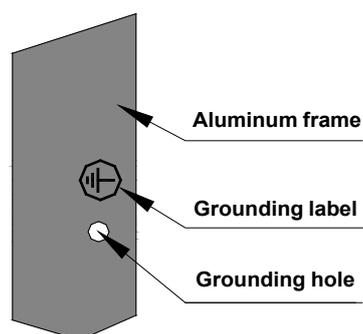
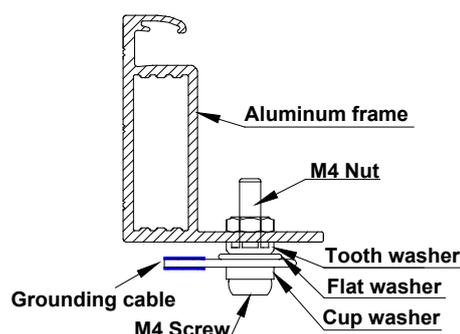

Figure 5 Grounding hole and ground label
Figure 6 Grounding method
**7.5.1** Modules use anodized aluminum alloy frame as a rigid support, in order to avoid modules by lightning and electrostatic damage, as well as the protection of personal safety, all module frames and mounting racks must be grounded. If there is no special provision, please follow the International Electrotechnical Commission standards or other international standards. Use the recommended connection terminals to connect the grounding cable to the module frame. Use 12 AWG copper wire for the grounding wire. As shown in Figure 5 on the module ground hole and its label, Figure 6 shows the module grounding method.